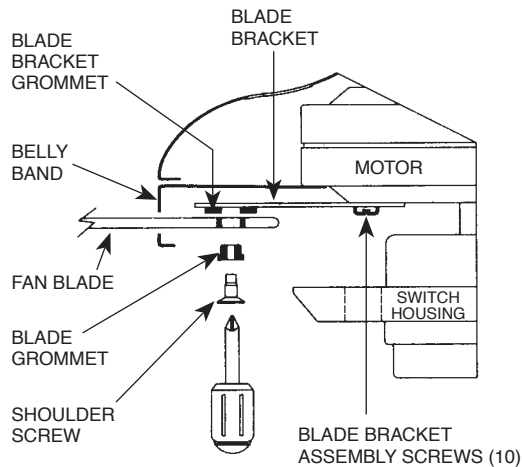

Figure 8
A. Slide wood blade through slot in belly band and line up the (2) holes in the blade with the rubber grommets in the blade bracket. Insert rubber grommets into the (2) holes in the blade and assemble the blade to the blade bracket using the shoulder screws provided in sack parts. When properly assembled, the end of the blade grommets will fit inside the bracket grommet. Tighten the shoulder screws to prevent vibration and wobble when the fan is operating. See Figure 8.
NOTE: After installing all the blades, check the (10) blade bracket assembly screws which attach the brackets to the motor. Make certain they are tight. You can reach the screws by inserting a screwdriver into the opening in the bottom of the switch housing. Rotate the blades to access all (10) screws. See Figure 8.